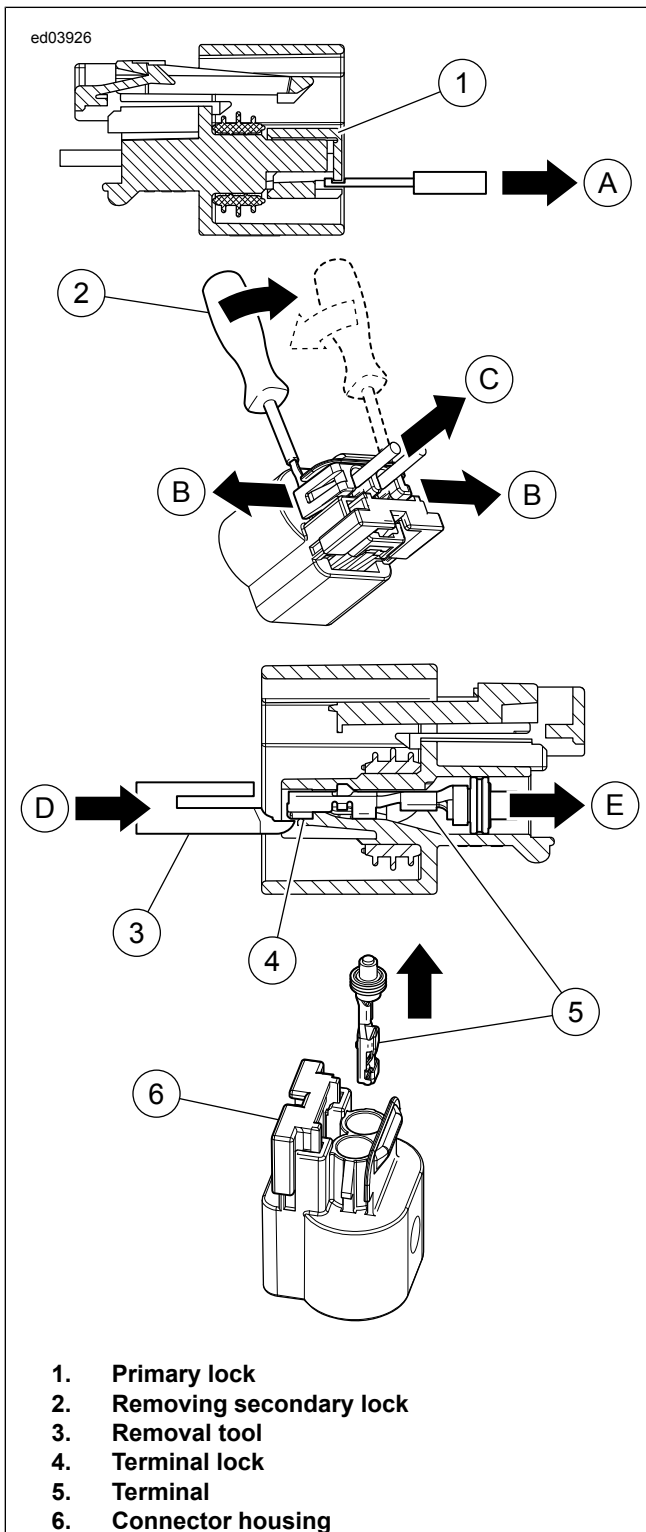

Figure B-9. Terminal Removal
1. See Figure B-9. Using TERMINAL EXTRACTOR \(PART NUMBER: B-50085\), completely remove the primary lock.